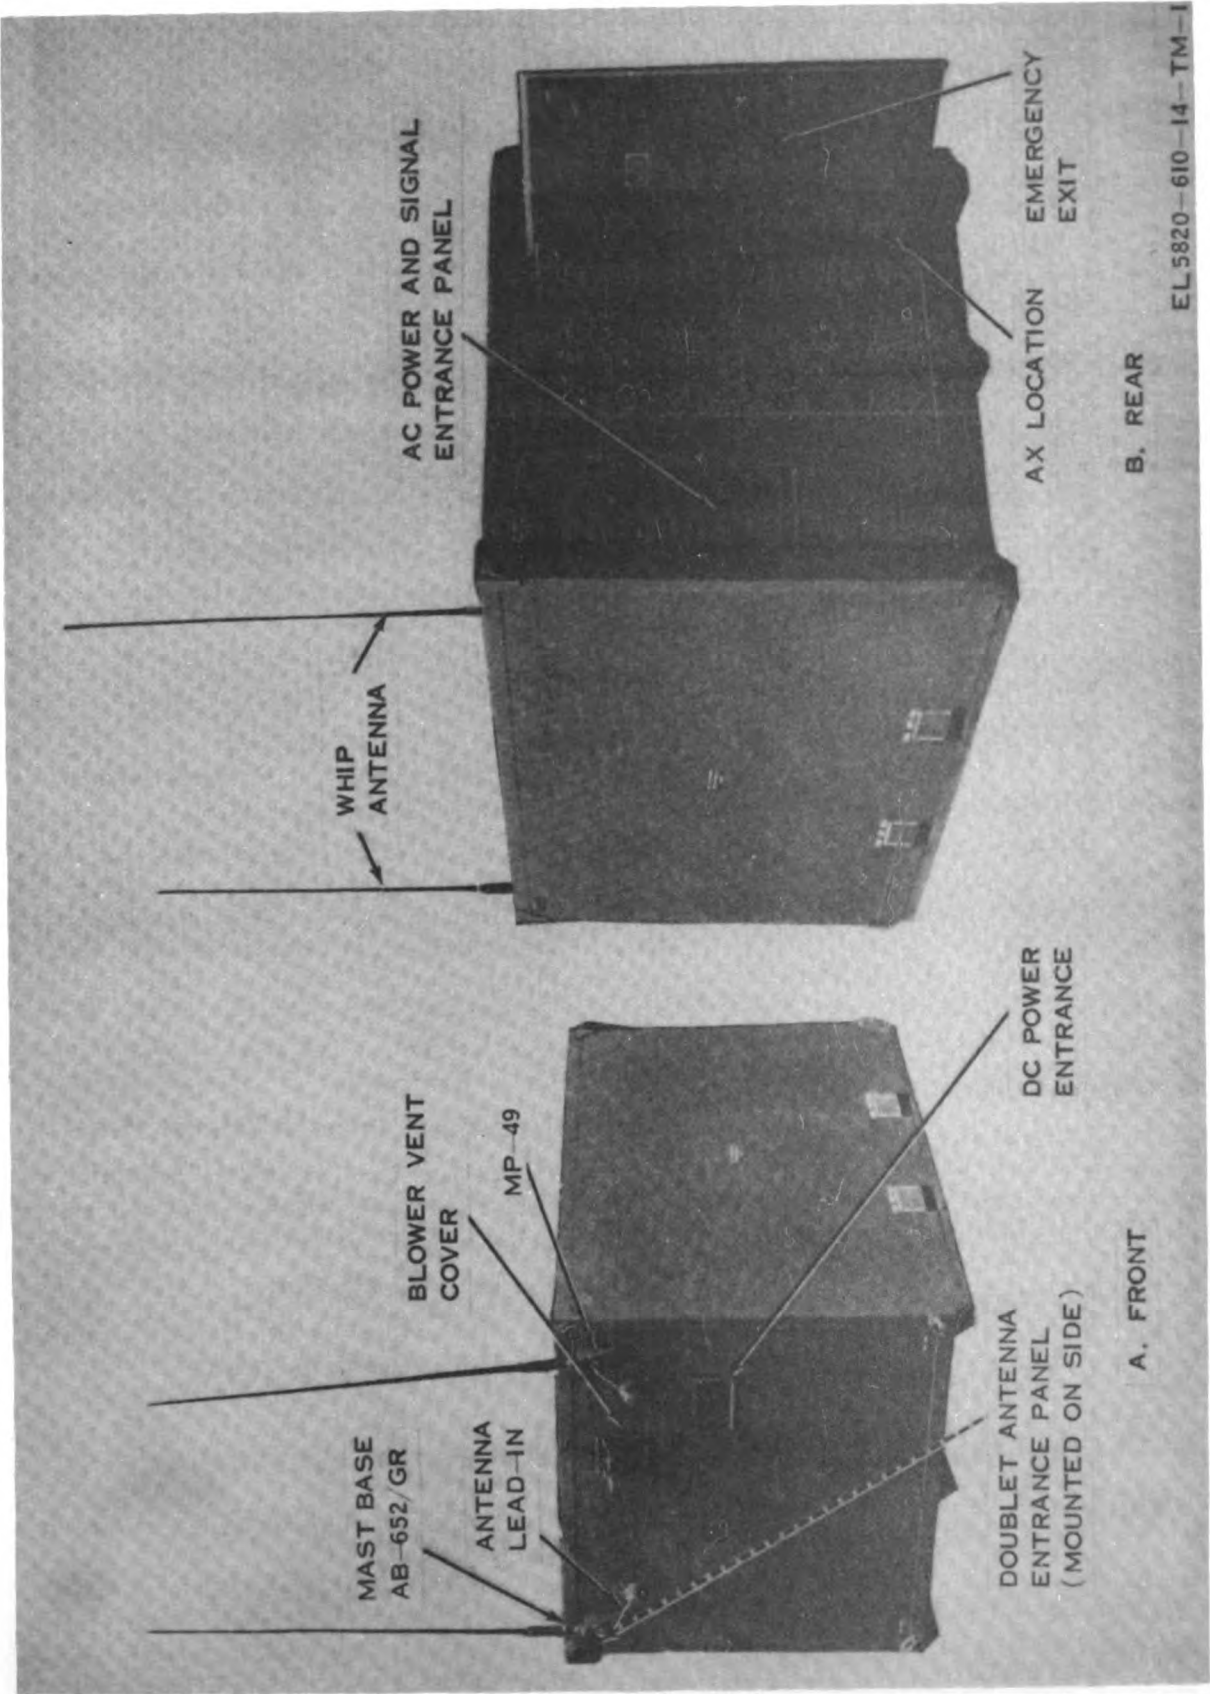

Figure 1-1. Radio Terminal Set AN/TRC-133A, external
b. *General*. The AN/TRC-133A is a single sideband, voice radio terminal mounted in a S-280A/G type of shelter (fig. 1-1) with radio equipment installed. A 2½-ton truck, not supplied as part of the terminal, can be used to transport the radio terminal and to pull a power unit trailer
(a) Provisions are made for mounting of two 15-foot whip antennas on the outside front wall of the shelter (fig. 1-1). The whip antennas are used during mobile operation.